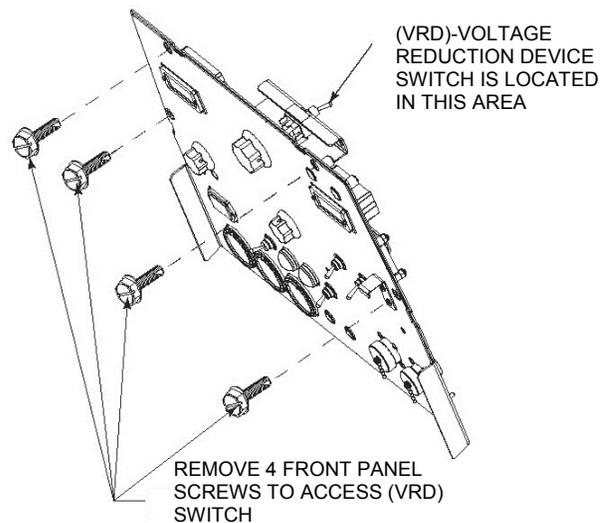

Figure 1
- Lower the control panel by removing 4 front panel screws. (Figure 1)
- Place the VRD switch in the "On or "Off" position. (Figure 1)